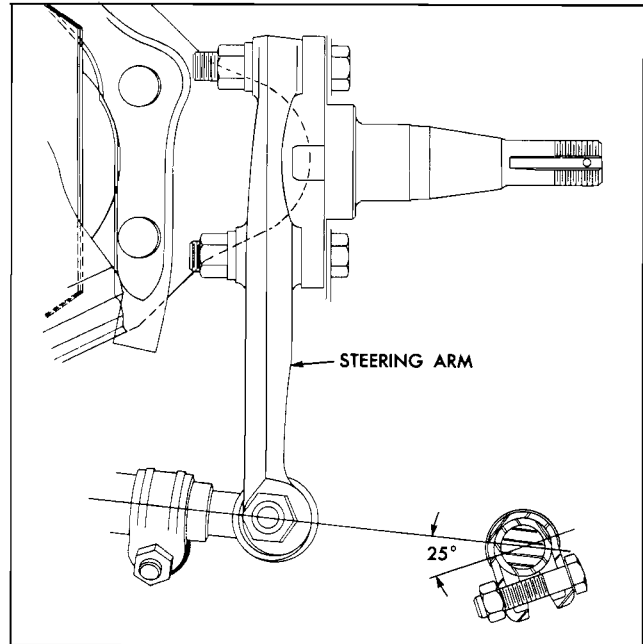

Fig. 3-13 Position for Tie-rod Adjuster Sleeve Bolts (Viewed from Top)
4. Tighten tie rod adjuster sleeve bolts to 14-20 lb. ft. torque, making sure bolts are to lower side of tie rod and at a 25° angle to vertical, head of bolts toward rear of car (Fig. 3-13).